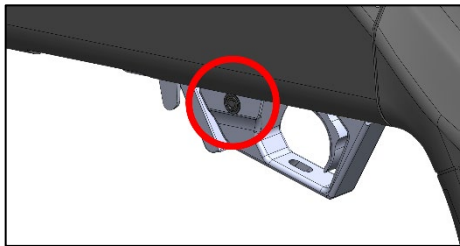

Figure 15 – SAFETY ON/FULL SAFE
- If after a new round is chambered and firing is not continued, place the safety button into the "FULL SAFE" position – Figure 15. Continue to be certain to keep the muzzle pointed in a safe direction.